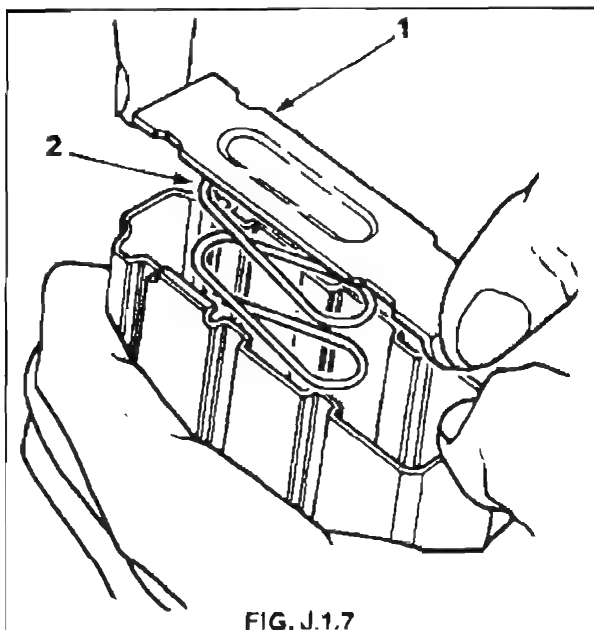

FIG. J.1.7
4. Withdraw the spring platform, magazine spring and the follower which is joined to the other end of the spring. See Fig. J.1.7.